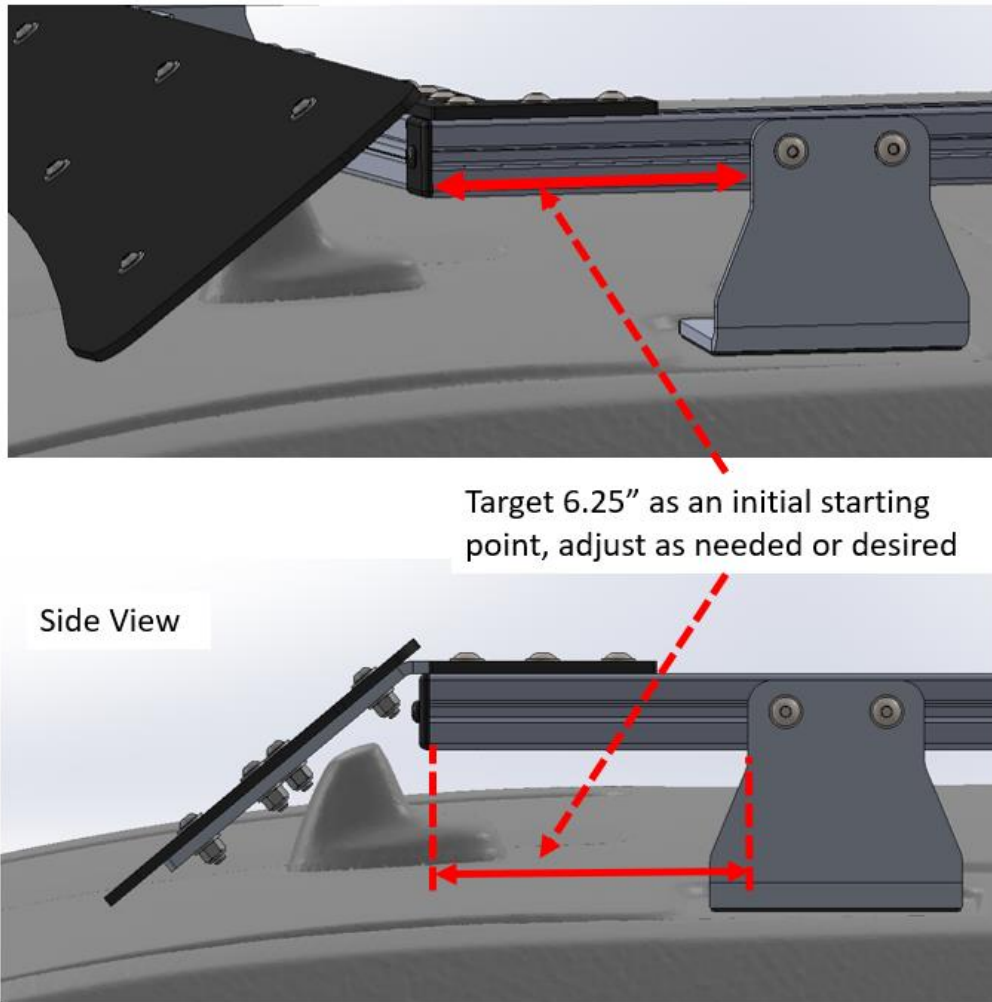

Figure 11: Wind fairing cross bar initial mounting location
1. Next loosely install the front cross bar and wind fairing. Adjust the cross-bar position as needed to achieve the desired installation position with respect to the van roof contour. We typically suggest setting the front of the cross bar roughly 6.25" from the front face at the top of the forward most roof rack bracket to start with but this can be adjusted forward or backward as desired. An example showing the initial 6.25" mounting position is shown in Figure 11.